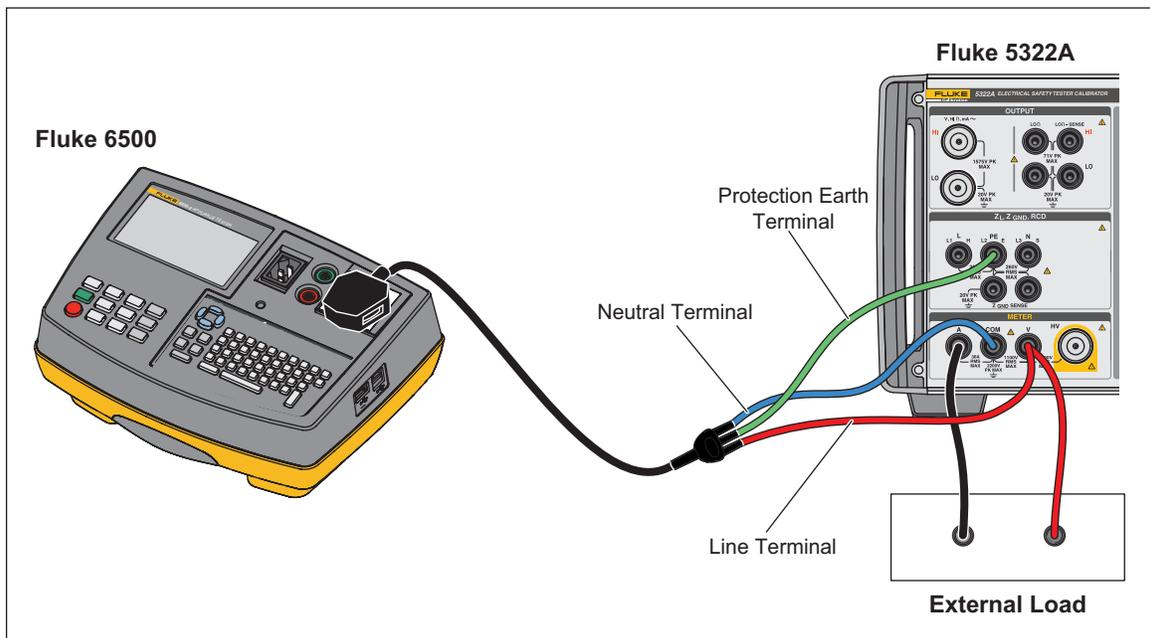

Figure 55. Voltage and Current Meter Calibration with a Cable Adapter
2. Connect the DUT to the Product's Meter A, COM and V terminals as in Figure 55 and Figure 56. Also, make a protected earth (ground) connection between the DUT and the Product's PE terminal.